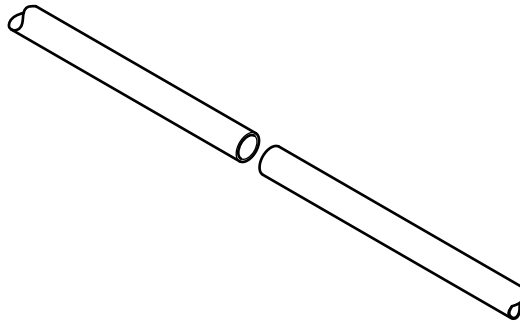

Fig. 11
- (e) Fig. 11 shows two Ø25mm steel tubes that will be joined end to end to provide an extended length. Welding the tube end to end would not be structurally sound.